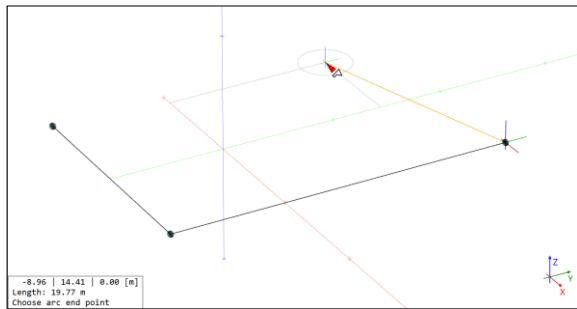

Figure 7.14 Setting the end point of the arc after activating the submode.
2. The end point of the arc (Figure 7.14). This is the first location that has to be chosen after activating the arc submodule. It can be at any 3D coordinates.